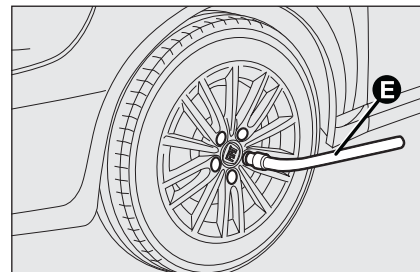

fig. 7
- loosen the bolts of the wheel to be replaced by about one turn with the wrench provided **E-fig. 7**; if the car is fitted with alloy rims, shake the car to facilitate removing this rim from the wheel hub;